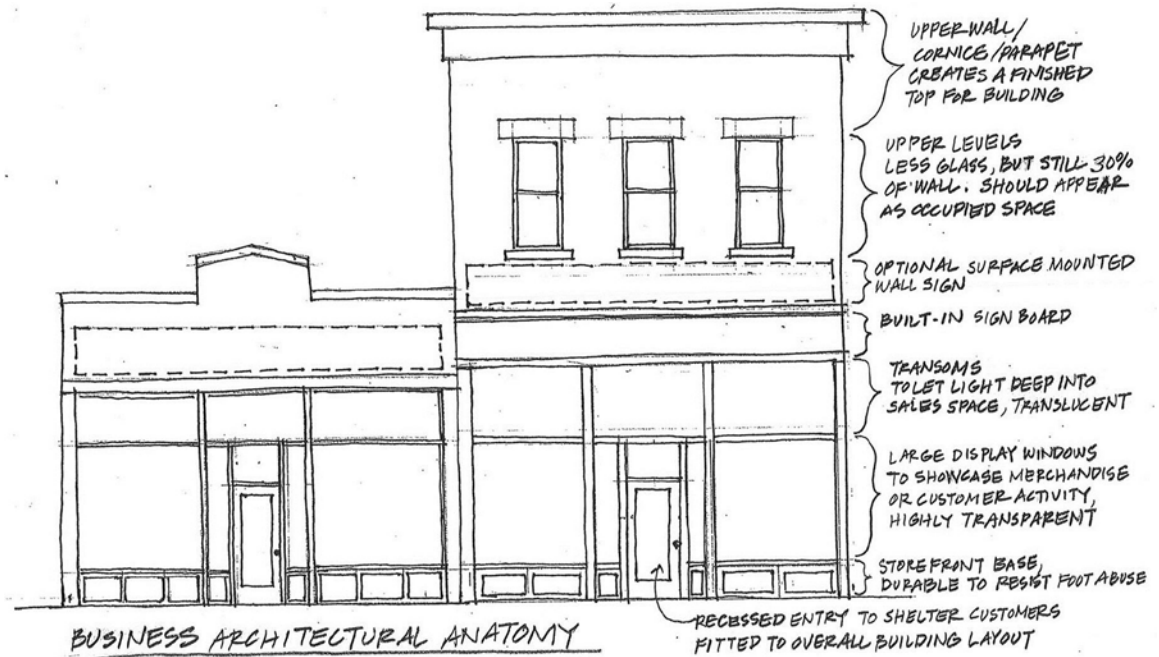

Figure 3
- D. Building Scale: Building improvements must be compatible in scale and proportion to other buildings in the area, the original building design, and to pedestrians. Existing buildings of different sizes can be made architecturally compatible through skillful design as illustrated in **Figures 3 & 4**. Special attention should be given to create architectural interest that relates to the pedestrian scale without appearing overwhelming. Specific desirable elements to achieve this scale include:
- A. Original Façade Preservation: Façade elements help to define a building’s visual character. The original design and materials of the building must be respected, even when a building’s use changes. Theme designs that alter the original character, such as coach lanterns, mansard roofs, rustic wood shakes, and small pane windows, should not be used unless they can be documented historically. The basic façade elements of traditional storefronts, with functional descriptions, are illustrated in **Figure 3**.
Preservation or restoration of ornamental cornices (shown in **Figures 3 & 5**) is specifically encouraged. Other important façade elements to be respected include belt courses (a continuous row or layer of stones, tile, ect. in a wall), pilasters (slightly projecting columns built into or applied onto the face of a wall), window arches, and frames. Adding more elaborate ornamentation than was originally found on the building façade is inappropriate.